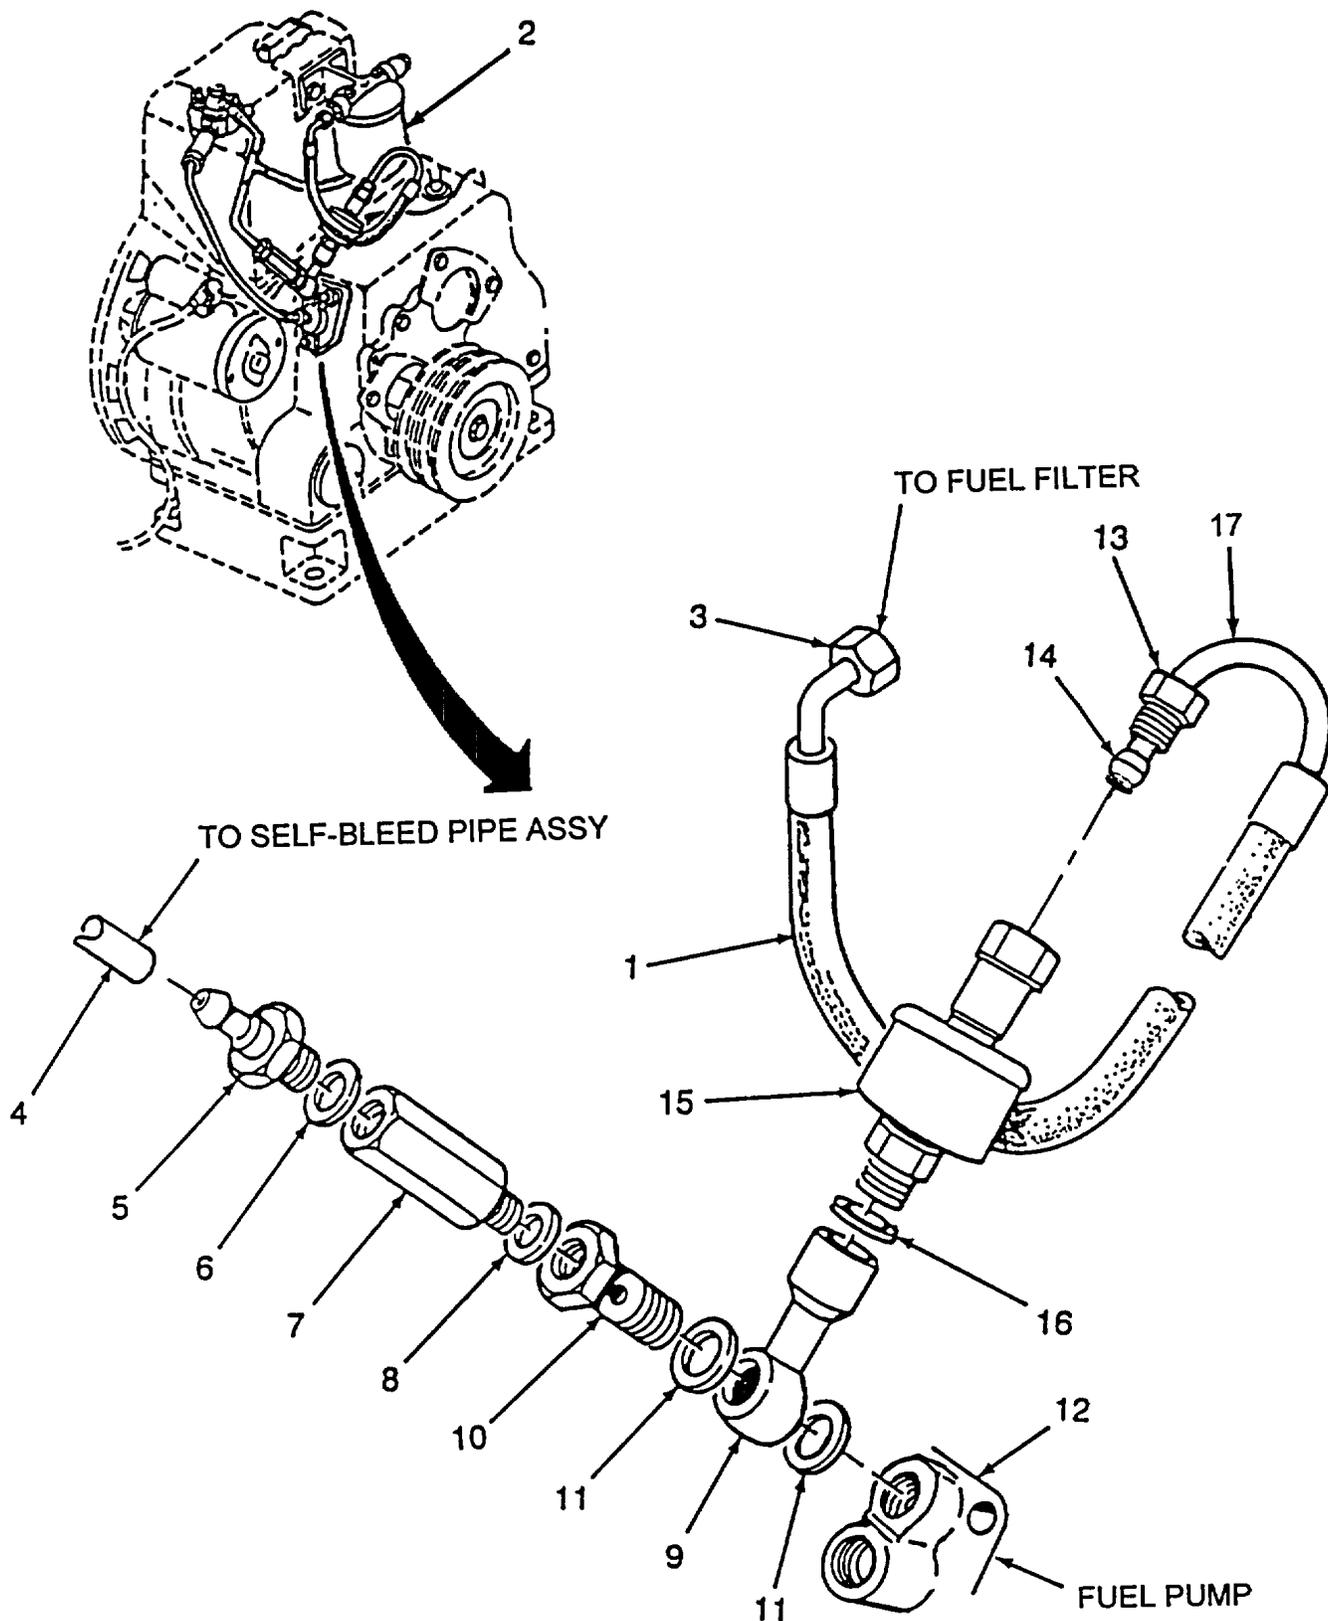

Figure 5-13. Fuel Control Solenoid Valve
## (1) Removal. (Refer to Figure 5-13).
- (a) Remove flexible pipe (1) from fuel filter (2), by loosening and removing union nut (3) from fuel filter.
- (b) Remove self bleed pipe (4) from hose adapter (5).
- (c) Remove hose adapter (5), copper washer (6), non return valve (7), copper washer (8), from solenoid adapter (9) by removing bolt (10) from solenoid adapter (9).
- (d) Remove swivel union-plug (10) and two washers (11) from solenoid adapter (9) and fuel pump (12).
- (e) Remove union (13) and ferrule (14) from valve (15).
- (f) Remove valve (15) and copper washer (16) from solenoid adapter (9).
- (g) Tag and remove wires on solenoid valve (15).